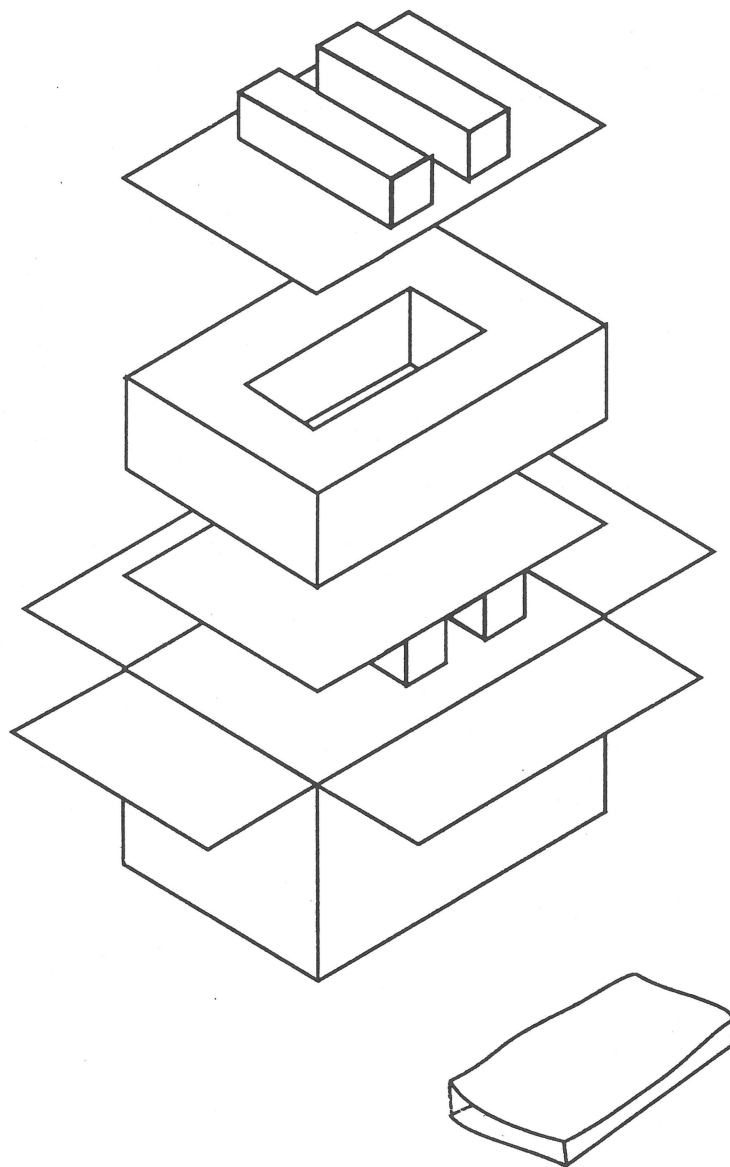

FIGURE 2
(Figure 2)
□ SERVICE PACKAGING, 800K/1.4 MB DRIVES (Figure 2)